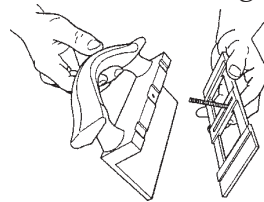

Figure A-4
- See the exploded view on Page 3. Unscrew the fence straddler's knob (28) and remove the washer (30), machine screw (29), and slide rail (27) from the fence straddle block (26).
- Transfer the slide rail (27) to the other side of straddle block and reassemble with the screw, washer and knob, as shown in Figures A-4 and A-5.